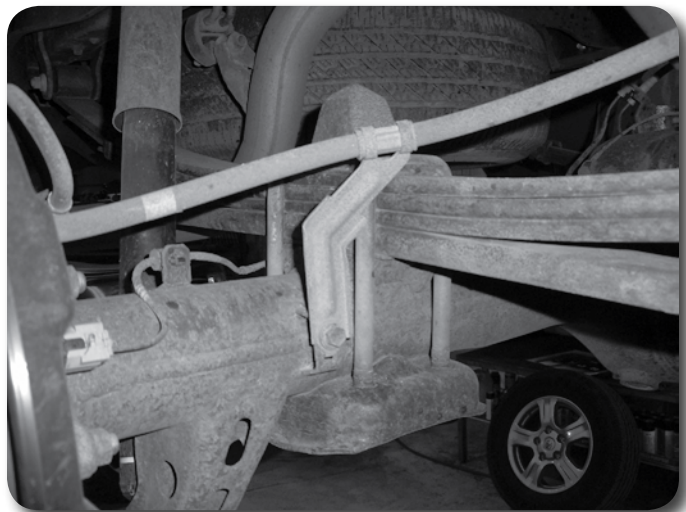

Figure 49
4. Disconnect the parking brake cable brackets from the driver's and passenger's side of the axle **Figure 49**. Remove the brackets from the cables.